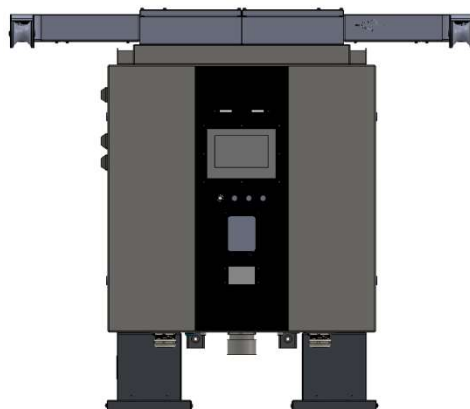

Figure 23 Effect drawing of CMS installation
(17) The completed effect diagram is shown in Figure 23.